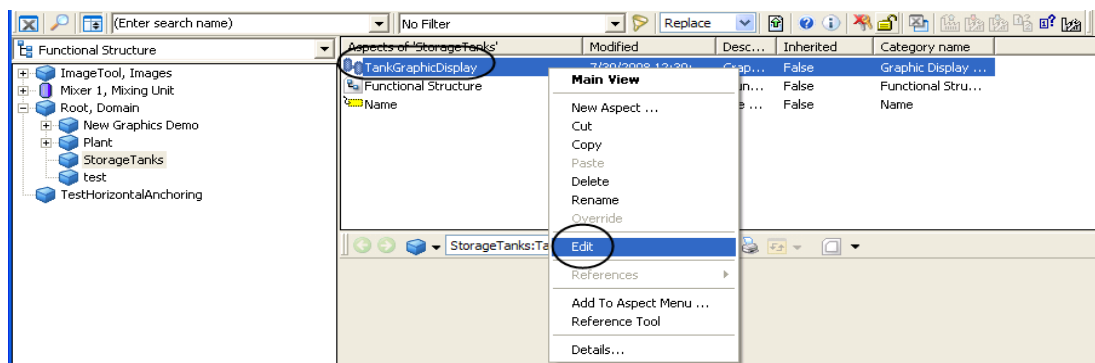

Figure 152. Launching the Graphics Builder for TankGraphicDisplay
4. To launch the Graphics Builder, right-click on the newly created aspect and select **Edit** from the context menu as shown in Figure 152. The Process Graphics Builder opens.